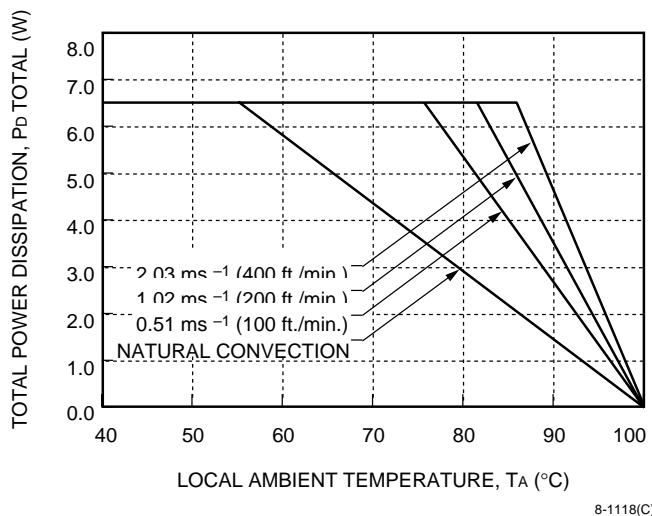

Figure 28. Total Power Dissipation vs. Local Ambient Temperature and Air Velocity
The maximum operating temperature of the CW025 Triple-Output-Series Power Modules at a given operating condition can be predicted by combining the power dissipation curves (Figures 23 through 27), the power derating curve (Figure 28), and the thermal resistance curve (Figure 29).
6. Use the estimated total power dissipated (P_{Dtotal}) along with Figure 28 to determine the maximum ambient temperature allowable for a given air velocity.
Figure 28 shows that, in natural convection, the maximum ambient temperature that this module can operate at is approximately 67 °C.
The air velocity required to maintain a desired maximum case temperature for a given power dissipation and ambient temperature can be calculated using Figure 28 and the following equation:
This corresponds to an airflow greater than 0.36 ms⁻¹ (70 fpm) in Figure 28.